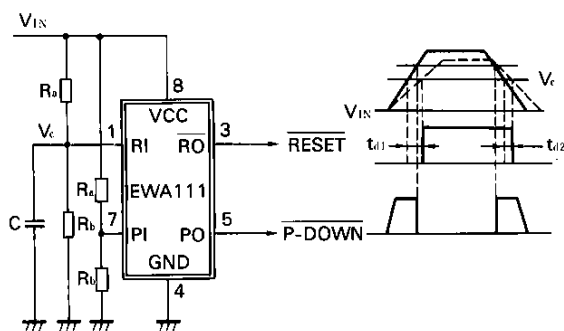

Fig. 8 Signal timing delay circuit
In the examples shown so far, the IC [RESET] and [P-DOWN] signal timings depend on the rise and fall characteristics of the system power supply. However, when it is difficult to obtain the required timing (especially, delayed output timing) only by the rise and fall characteristics of the system power supply. The required timing can be obtained by using an application circuit shown in Fig. 8 to delay EWA111 signal timings. The delays t_{d1} and t_{d2} can be calculated roughly using formulas (7) and (8).